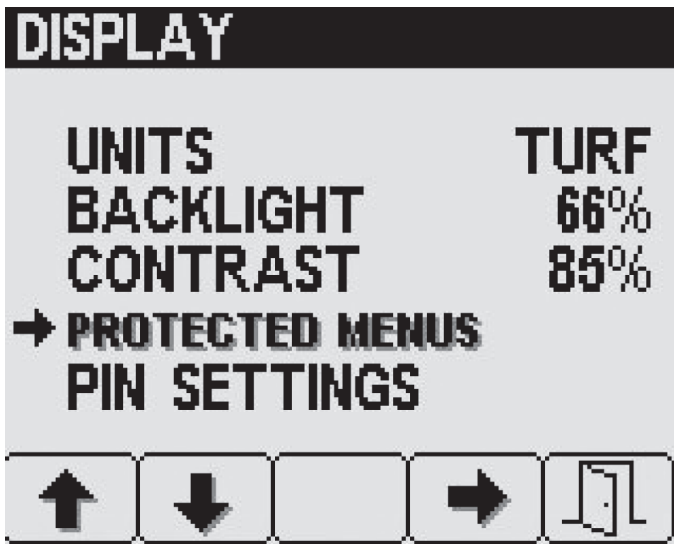

Figure 27
1. Press button 2 on the Display settings to navigate to the Protected Menus option, then press button 4 to select Protected Menus (Figure 27).
2. Press button 2 to navigate to the desired protected menu item (Figure 27).